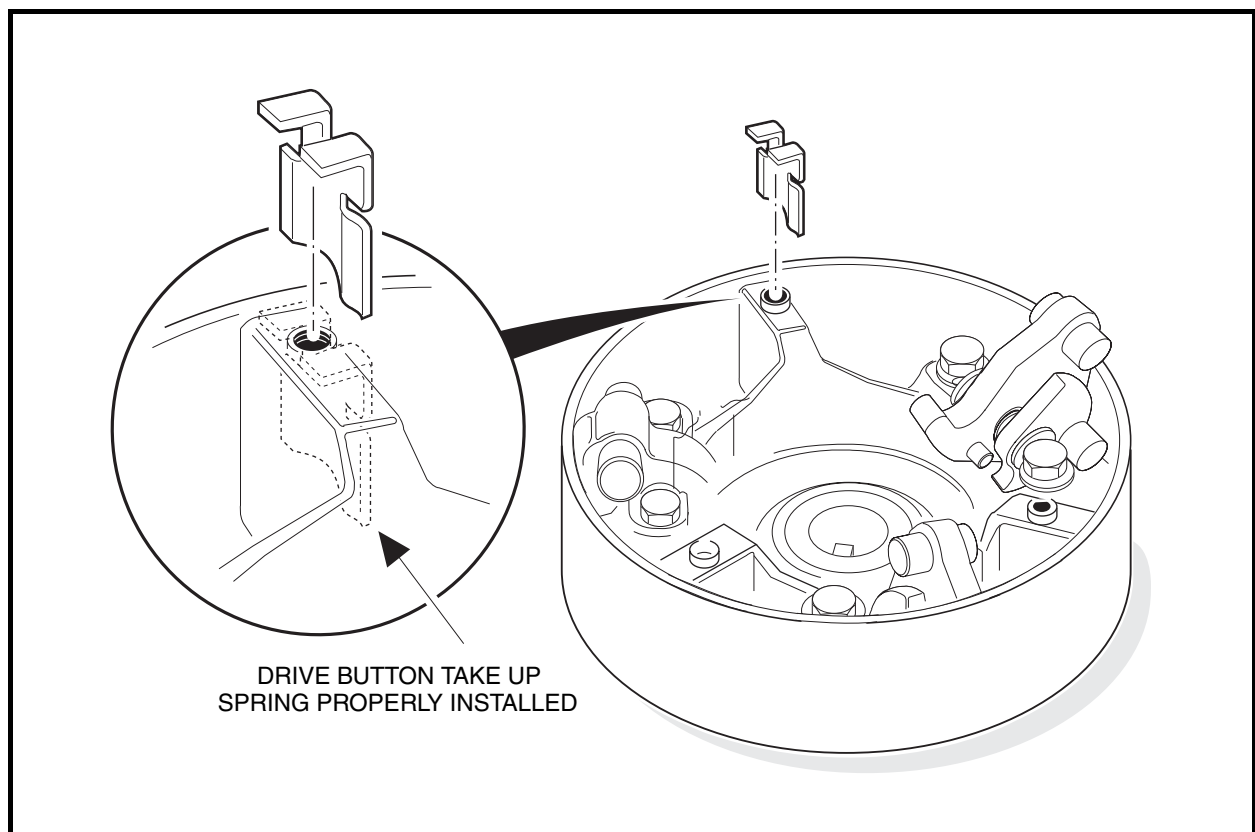

Figure 17-15 Correct Orientation of Drive Button Take-up Springs
- 13.1. Install each spring on right-hand side of the three button mounting posts (when looking into the interior of the clutch drive hub, and with the rib at a twelve o'clock position) as shown (**Figure 17-15, Page 17-11**).